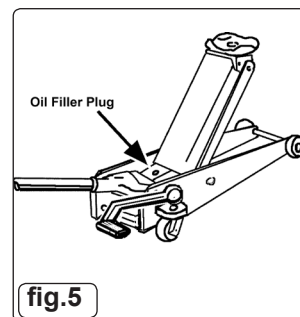

fig.5
- 6.3.2 With the jack in the level position, remove the oil filler plug (fig.5).